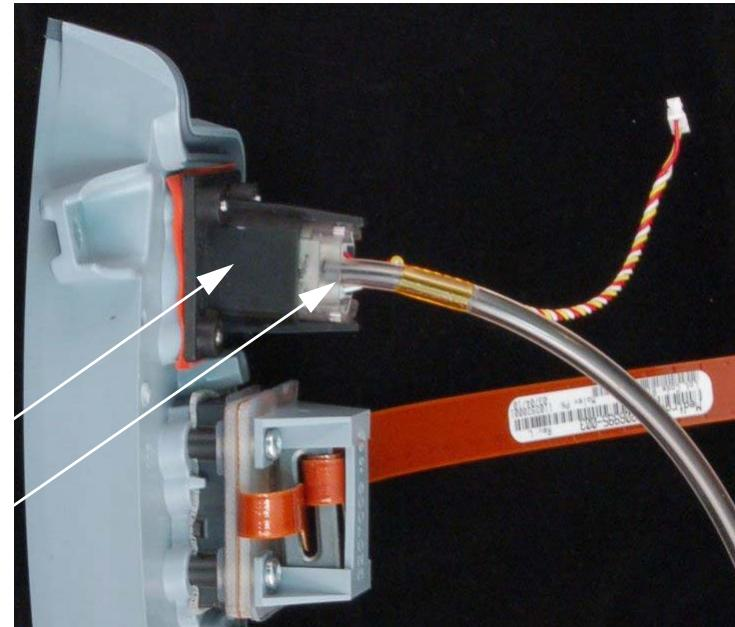

Figure 8.105—CO2 connector parts
4. Disengage the CO2 inlet connector cable from the CO2 connector retainer by spreading the arms of the retainer and sliding out the CO2 inlet connector body (see Figure 8.105 on p. 336). Discard the connector retainer clip.